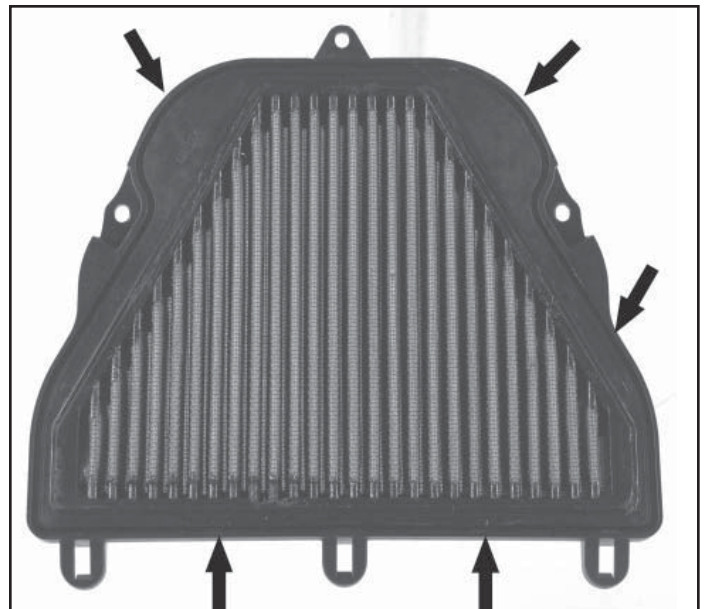

Fig. 2
3. Reinstall the stock o-ring into the groove on the K&N Air Filter. (Fig. 2)